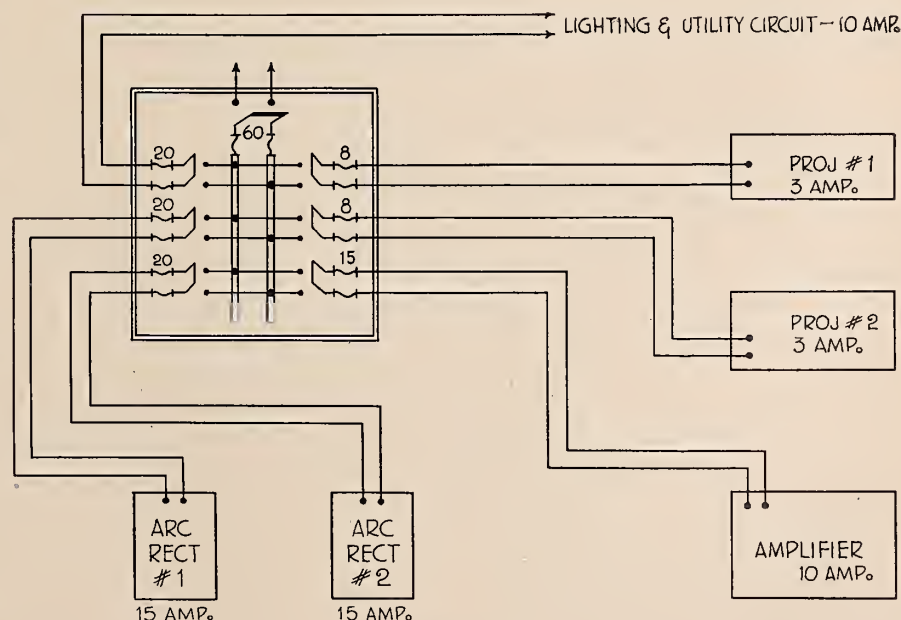
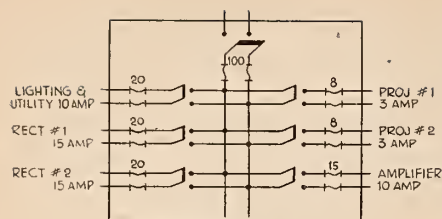
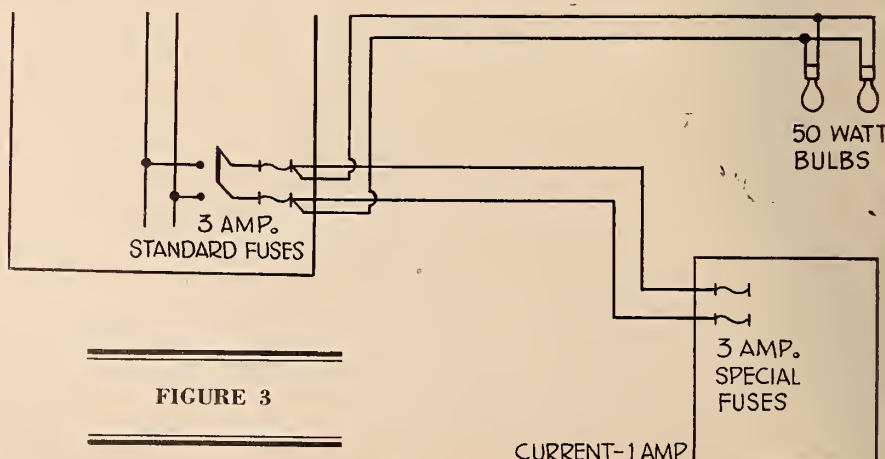
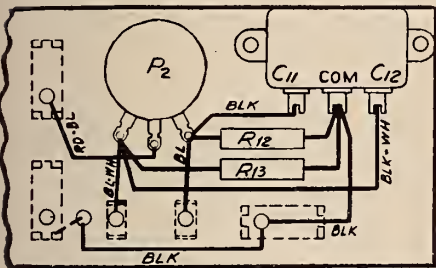

FIGURE 1
FIGURE 2
FIGURE 3
FIGURE 4
A sample diagram is shown in Figure 1. Let us assume that the fusing there shown is correct—that the projector motor fusing is high enough to allow for the motor starting current, and so on—and it is not difficult to see why the entire circuit of that switchboard, as drawn, must be known to the projectionist before he can fuse any one line with reasonable accuracy.
The only reason for considering such occurrences mysterious is that the projectionist very often does not have before him the whole picture, as it is shown in Figure 1. He knows only that the same rectifier was supplied through 30 ampere fuses and 60 ampere fuses in series, and that the 30 ampere fuses held while the 60 ampere fuses burnt out. Of course there isn't any accounting for a thing like that while the full complexity of the power wiring is unknown.
Up to this point it has been assumed that 30 ampere fuses were substituted for the 20 ampere fuses shown in Figure 1, and that that drawing as it actually appears is correctly fused. But it is not.
The greatest possible normal current through the switchboard is, as noted, 56 amperes, leaving a 4-ampere margin at the main fuses. But each set of rectifier fuses, even at 20 amperes as drawn, has a 5-ampere margin. Figure 1 is not correctly fused. If either of those rectifiers develops trouble, the chances are that both the 20 ampere fuses and the 60 ampere main fuses will burn out simultaneously.
Still another factor to be considered in connection with fusing is that the starting current of a motor is higher, and may be very much higher, than the normal running current. The 3-ampere motors shown in Figure 1 may possibly draw 7 amperes momentary starting current. This would bring the momentary drain through the switchboard to 60 amperes at each changeover—provided the lighting and utility line were utilizing its normal 10 amperes. At times when there was less than the full 10-ampere drain on the utility line, operation would proceed normally; but sometimes, with the utility line carrying its full current, the main switchboard fuses might give way. Another of those mysterious troubles that happen only occasionally and "can't be explained."
If the switchboard main fuses in Figure 1 break down, the lighting line will cease to function, and unless there is a second and independent source of light the projectionist will have to look for his trouble in the dark. Even if he does have light, he will not know, by the symptoms of the fuse outage, which of the six circuits supplied by those fuses is the cause of his difficulty. The audience will have to wait while he investigates six circuits, instead of one.
Figure 1, the chances are the main fuses will go, and both rectifiers will become inoperative. So will the amplifier and the projector motor and the projection room lights.
What is within his responsibility is the fusing in the projection room, with the full understanding that a mistake there may be reflected not only at the main fuses of Figure 1, but may burn out distant fuses on the theatre's panel board located elsewhere. In other words, merely putting larger fuses in the main line of Figure 1 is no automatic cure-all for the conditions previously outlined. Doing that may darken the entire theatre.
A prime cause of poor fusing is lack of detailed knowledge of the power circuits involved. In most theatres, the projectionist need only know the wiring of his own dominion. The house electrician or some similar employee will specify the largest size fuses that can be used with safety in the main line of such a board as Figure 1. The projectionist will then have to make the wiring of that
In Figure 1, if 60 amperes is really the limit for main line fuses, the power board is overloaded, and some of the load should be transferred to other circuits. Such conditions arise through installation of new apparatus from time to time, without proper regard for the limitations of the power supply.
In all such cases proper operation, proper care of equipment, and the continuity of the show, require that the necessary information be compiled. Power circuits must be traced through completely and in full detail, and a drawing made along the lines of Figure 1. A chart, along the lines of Figure 2, will serve equally well. Note that Figure 2 shows both the actual drain of each line, and the proper size fuse for that line.
so on. There will then be five steps: (1) make the layout—the equivalent of Figure 2; (2) add terminals and connection points where needed—and only where needed for clarity; (3) add apparatus information; (4) draw in wires, and (5) add wire information.
Figure 4 is the wiring diagram of the apparatus mounted on the back of the panel of Figures 2 and 3. Since the back and front of the panel cannot be shown in the same drawing, two separate drawings are needed.
Note that in Figure 3 the path of the wires is *not* shown, while in Figure 4 each wire is traced throughout. Either method can be used in a wiring diagram. To draw in every wire, as is done in Figure 4, makes large and complex drawings crowded, and often clumsy and hard to read. Draftsmen increasingly favor the method of Figure 3.
The information found in Figure 4, such as P-2, C-11, R-12, may present the projectionist with a problem. If such information is stenciled on the parts, it should by all means be used. If the stencil marks have been obscured by dirt, clean them with a dry rag. Beware of either water or carbon tet—the markings may wash off. Use a cleaning fluid of any kind only after the dry rag has hopelessly failed and there is nothing to lose. Then use it very sparingly, rubbing gently in the hope that perhaps the dirt will come off without taking the markings with it.
Some amplifiers and other forms of equipment are fitted with fuses of special types which may not be easily available in wartime. Some "midget" fuses are very scarce in some cities. A simple trick that will prolong the life of such fuses is diagrammed in Figure 3.
Many variations of this simple arrangement will readily suggest themselves. A useful 1 ampere circuit, which has to be supplied with current anyhow, may be substituted for the lamp bulbs of Figure 3. If that is done, however, it is necessary to make sure that this branch circuit will always and invariably be functioning when the apparatus panel is in use; if such is not the case, there will be times when the special fuses of the apparatus will be without protection.